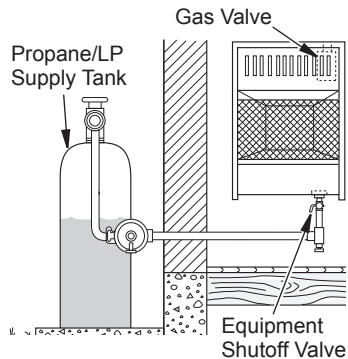

Figure 16 - Checking Gas Joints
3. Check all joints from gas supply to equipment shutoff valve (see Figure 16). Apply a noncorrosive leak detection fluid to all joints. If bubbles form, there is a leak.
4. Check all joints from equipment shutoff valve to control valve (see Figure 16). Apply a noncorrosive leak detection fluid to all joints. Bubbles forming show a leak.